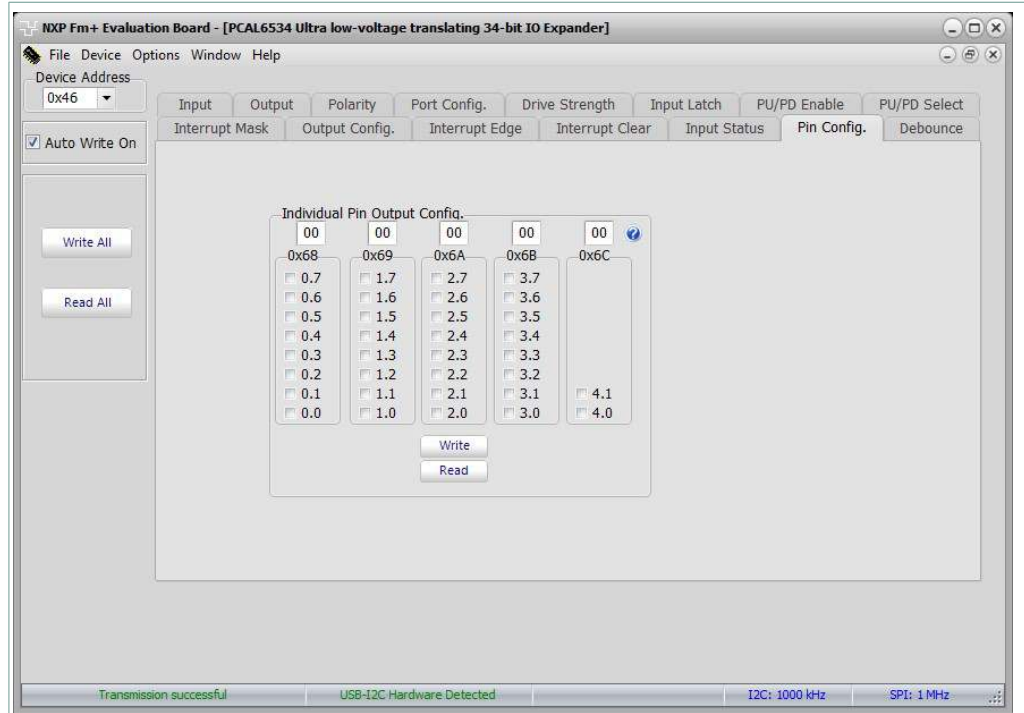

Figure 23. Device configuration screen for registers 68-6C hex
15. Pin Configuration registers read or write are shown in Figure 23.